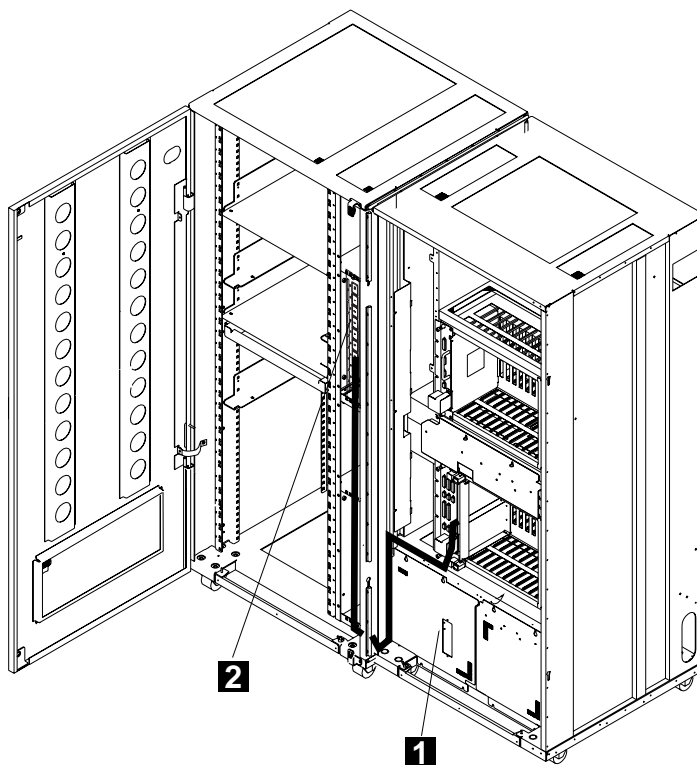
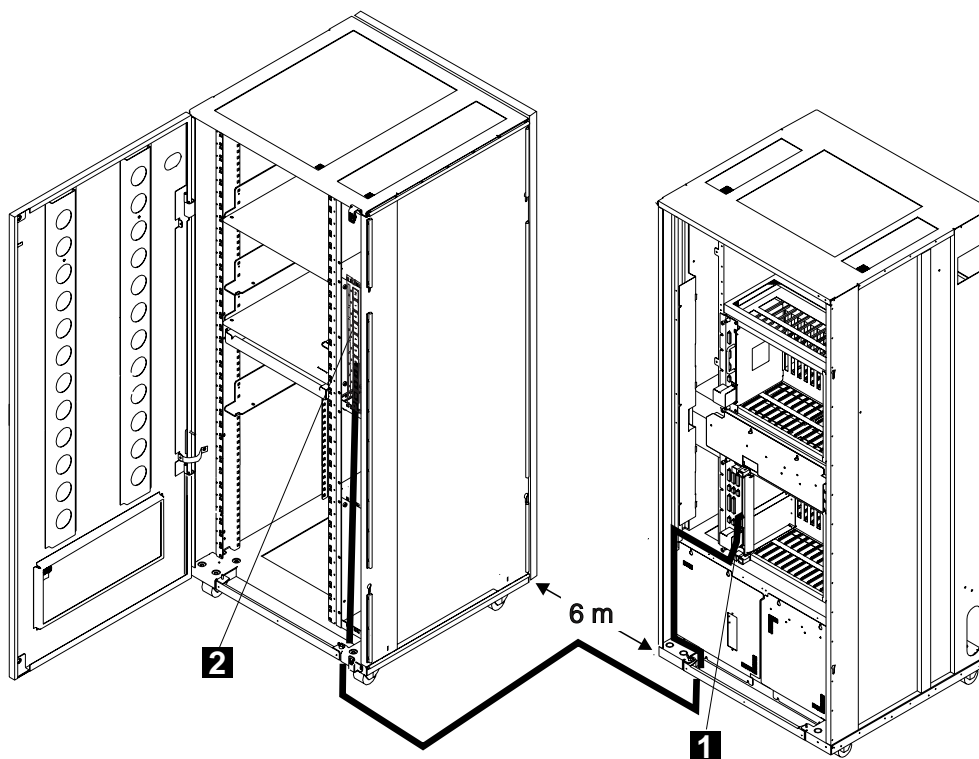

Figure 2-26. Routing the Cable from a TIC3 to a 8228 (Controller Expansion Attached)
Figure 2-27. Routing the Cable from a TIC3 to a 8228 (Controller Expansion Detached)
- b. \_\_\_\_ Route and connect the **8228** to the TIC3 using the token ring attachment cable PN 76F9441 (9 m, 27 ft). To route the cable, refer to Figure 2-26 on page 2-22 or Figure 2-27 on page 2-22.